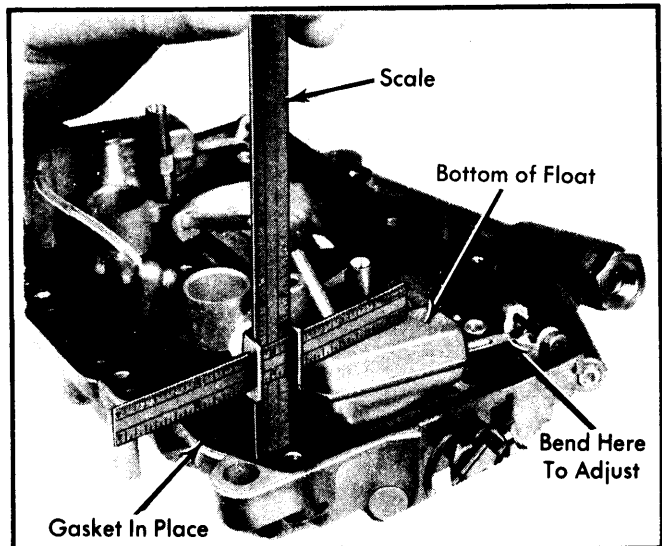

Fig. 1 Adjusting Float Level
1) Turn air horn upside down. Place air horn gasket in position on air horn. Make sure floats are against seated needle valve. See Fig. 1.